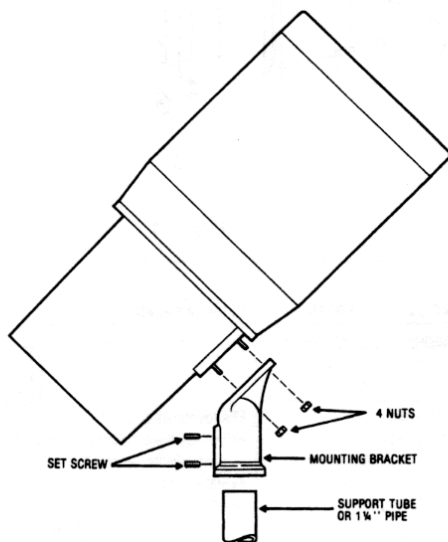

Figure 3
3. Attach the chlorinator mounting bracket to the chlorinator (Figure 3) and install the chlorinator onto the support tube.
- C. Attach the mounting bracket to the chlorinator and mount the chlorinator on the support tube or mounting pipe (Figure 3).